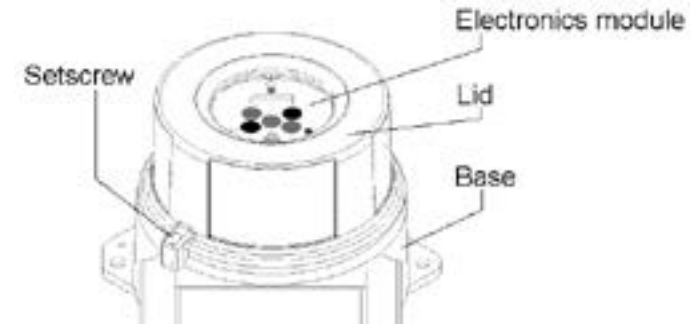

Figure 11. FS20X enclosure
- 1. Loosen the enclosure's setscrew (see Figure 11)